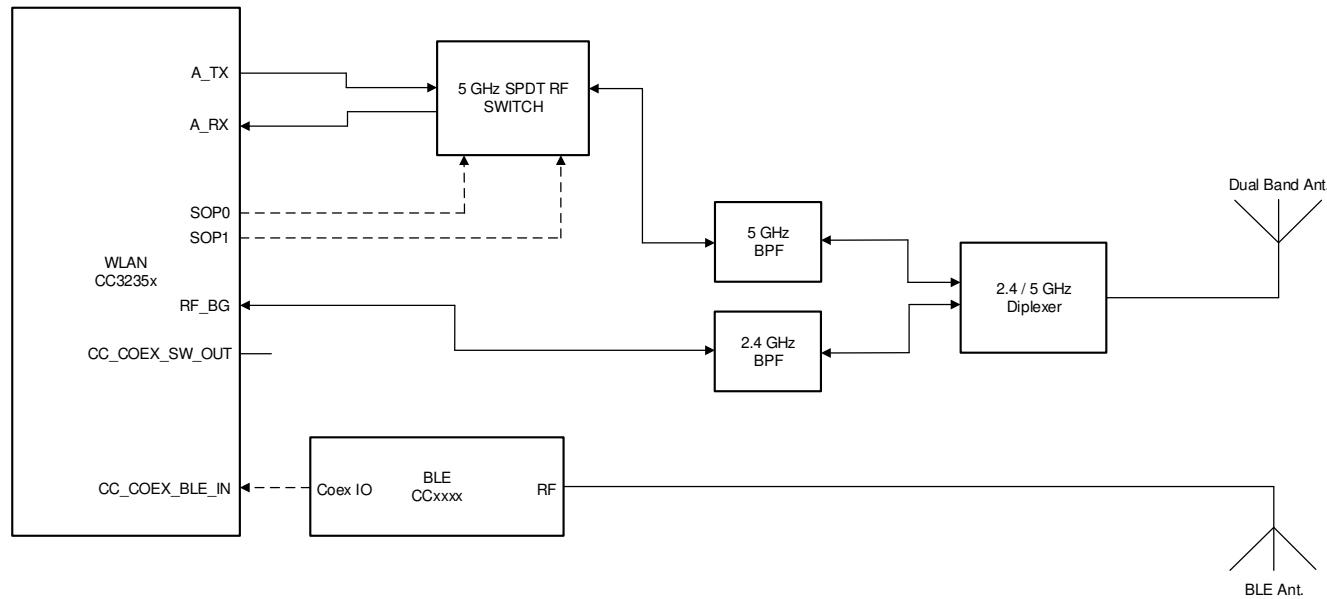

Figure 9-4. Dual Antenna Coexistence Solution with 5GHz Wi-Fi
- 5GHz Wi-Fi band (see Figure 9-4)
Figure 9-4 shows the dual antenna implementation of a complete Bluetooth® low energy and WLAN coexistence network with the WLAN operating on either a 2.4- or a 5GHz band. In this case, the 2.4GHz and 5GHz Wi-Fi share an antenna and the BLE has its own dedicated antenna. The SOP lines control the 5GHz switch. Note that in this implementation, no Coex switch is required and only a single GPIO from the BLE device to the CC3235x device is required.